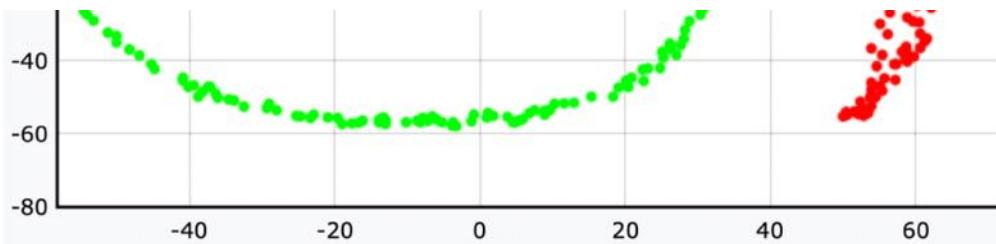

Figure 16.12 – The magnetometer partially calibrated
*Figure 16.12 shows the ellipse for the green values, and more data for the red and blue scatter plots. The slower you are, the better the data is.*